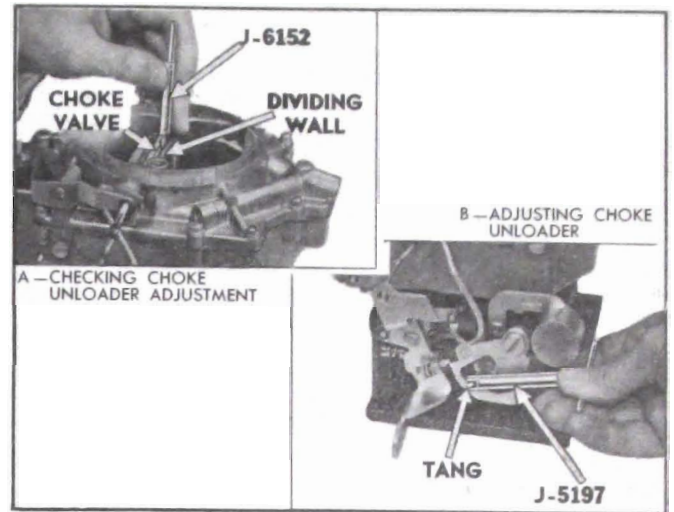

Figure 3-83—Choke Unloader Adjustment
3. Fully open throttle so that throttle arm contacts unloader tang on fast idle cam, then check clearance between choke valve and air horn dividing wall using .115" end of Gauge J-6152. See figure 3-83, (View A).
4. If choke valve clearance is not correct, bend unloader tang as required to obtain specified clearance using Tool J-5197. See figure 3-83, (View B).